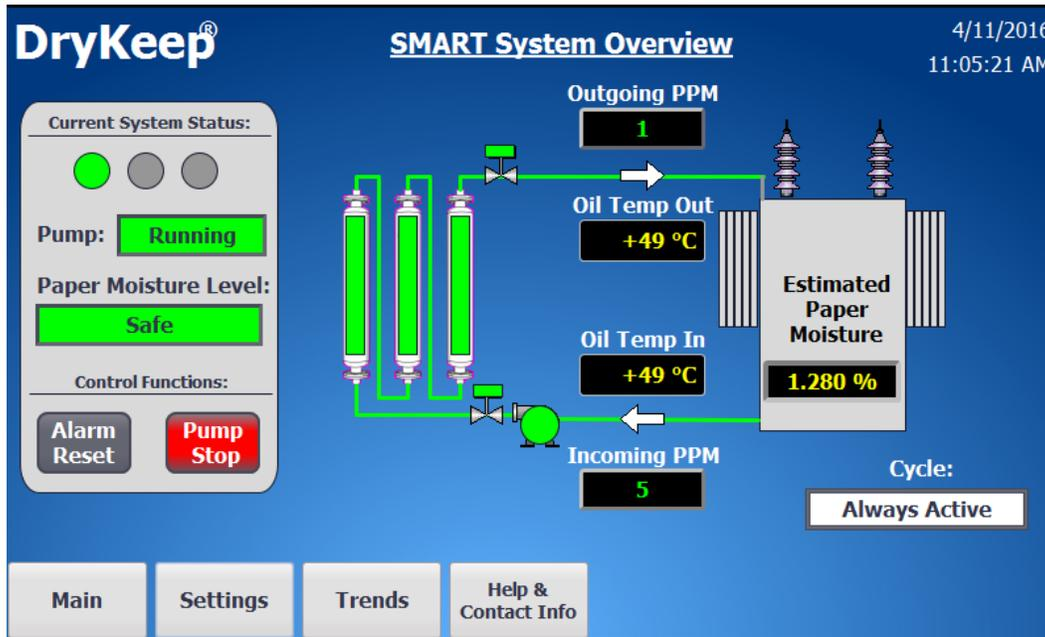
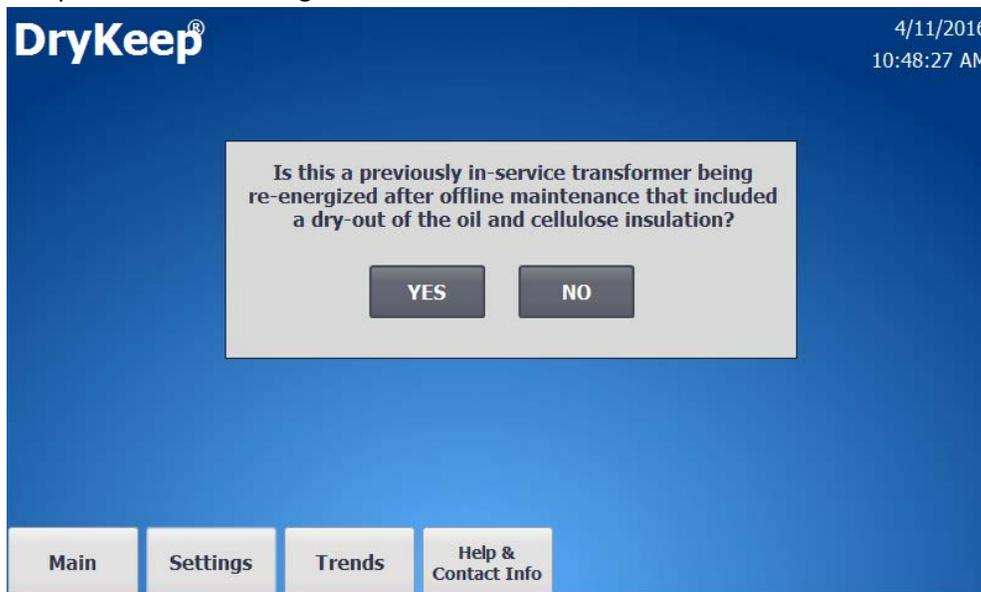

Figure 8: Main screen in Always Active Cycle for new transformers
Figure 9: Second startup screen when system is ready to be put in service
- 6) For new transformers being placed into service for the first time, pushing “YES” on the screen will start the DryKeep® pump and open the inlet and outlet solenoid safety valves. From here, go to Step 10 below to continue commissioning. *In this mode, the system will be in the “Always Active” cycle. The pump will run continuously to remove residual or new moisture. The SMART display will go to the Main screen shown in Figure 8.*
- 7) If it is not a new transformer, answering “no” to the first question will bring you to the second setup screen shown in Figure 9.
- 8) For transformers that have just been dried down to sufficiently bring the level of moisture in the paper down to the acceptable level (at or below 1.3%) just prior to DryKeep® being installed, pushing “YES” on the screen shown in Figure 9 will start the DryKeep® pump and open the inlet and outlet solenoid safety valves. From here, go to Step 10 below to continue commissioning. *In this mode, the system will be in the “Always Active” cycle. The pump will run continuously to remove residual or new moisture. The SMART display will go to the Main screen shown in Figure 8.*